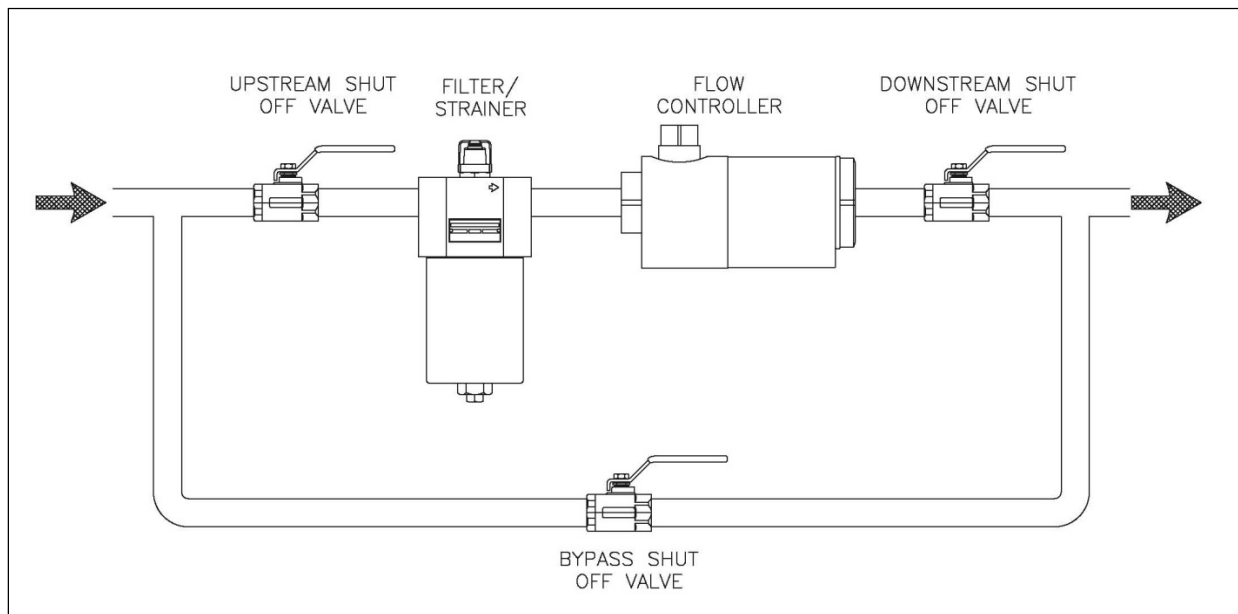

Figure 1
2. Upstream and downstream shutoff valves and a bypass valve should be installed so that the controller may be opened for inspection and cleaning without requiring complete system shutdown.(See figure 1)